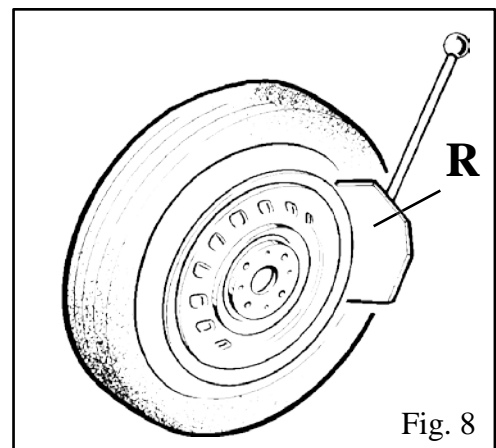

Fig. 8
- Accostare la ruota agli appoggi in gomma sulla parte destra dello smontagomme (S)
- Avvicinare la paletta (R) al tallone del pneumatico, mantenendo una distanza, dal bordo del cerchio, di circa 1 cm.(Fig.8)
- *Position the wheel against the rubber stops on the right side of the tyre changer (S).*
- *Position the bead breaker blade (r) against the tyre bead at a distance of about 1 cm from the rim (fig.8). Pay attention to the blade, which must operate correctly onto the tyre and not onto the rim.*
- *Press down the pedal (U) to activate the bead breaker and release it when the blade has reached the end of its travel or in any case when the bead is broken.*
•Appuyer la roue sur les supports en caoutchouc sur la droite du démonte-pneus (S).
•Approcher la palette (R) au talon du pneu en maintenant une distance d'un cm. environ du bord de la jante (fig.8).